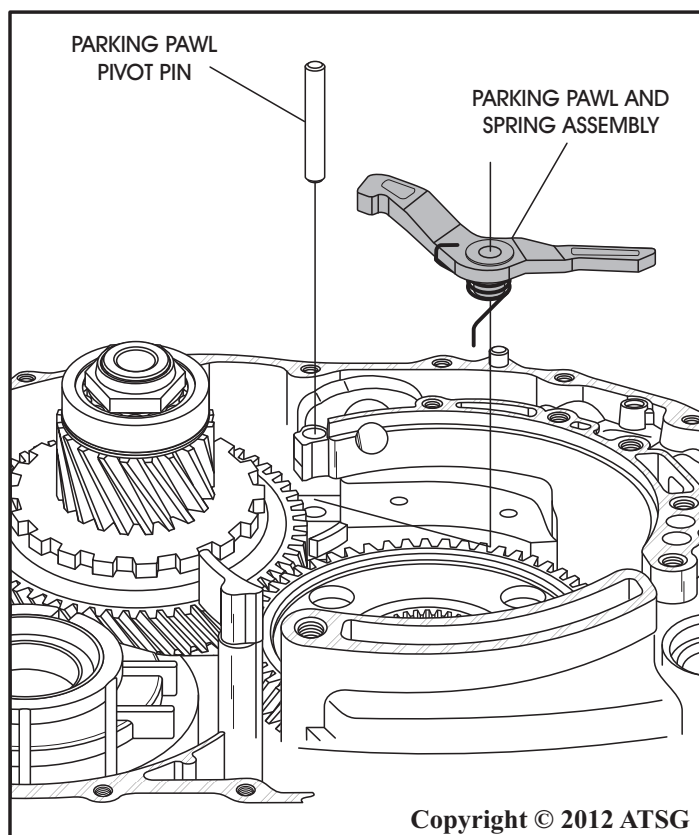

Figure 282
85. Install the parking pawl and spring assembly into the case, as shown in Figure 282, and install the parking pawl pivot pin.